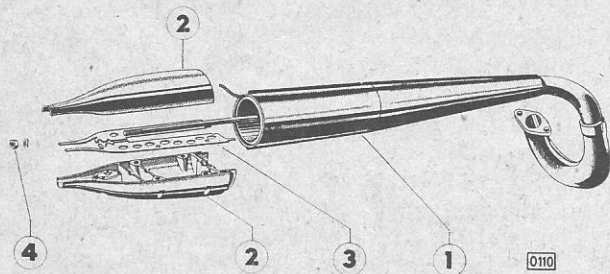

Fig. 10: Clean exhaust end pipe:
- c) Clean exhaust end pipe (Fig. 10):